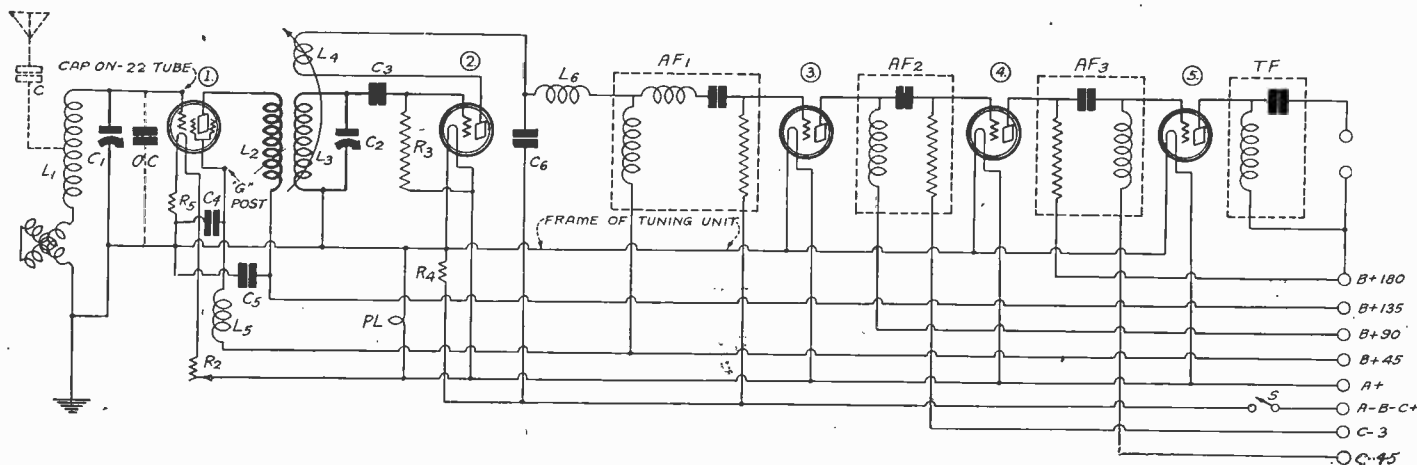

FIG. 718
(1)—Fig. 718 gives the complete diagram of the National Screen Grid Five.